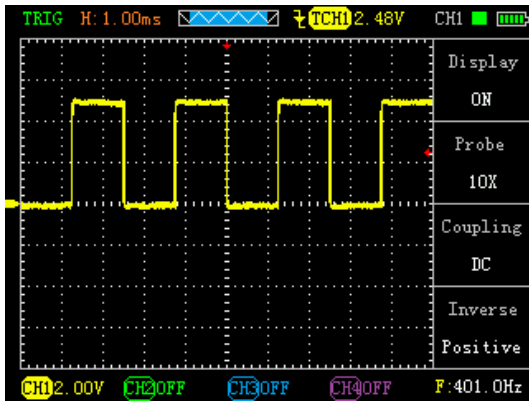
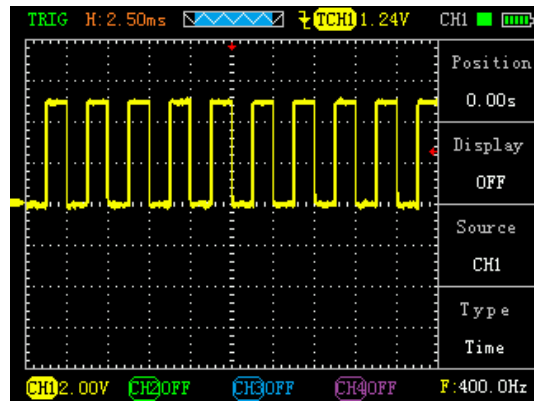

Figure 2-9
Figure 2-10
- Horizontal scale: Adjust the main group; press the "HORI" button, Press "▲" or "▼" to change the scale of the level. To zoom in or out waveform. If you want to stop waveform acquisition, press the "RUN" key can be realized. As Figure 2-9, Figure 2-10